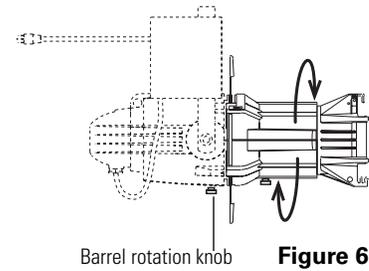

Figure 6
1. Loosen the barrel rotation knob directly behind the shutters on the underside of the reflector housing (**Figure 6**). **Do not** remove the barrel rotation knob.